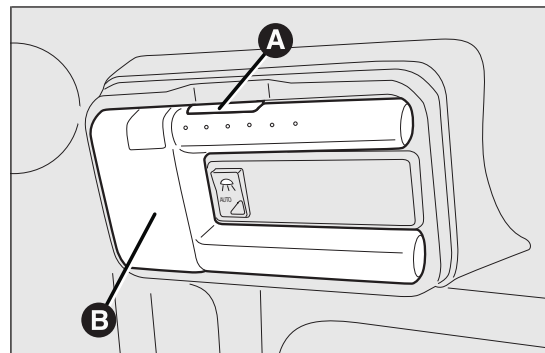

fig. 165
- ❑ press button A fig. 165 and extract the removable ceiling light B;